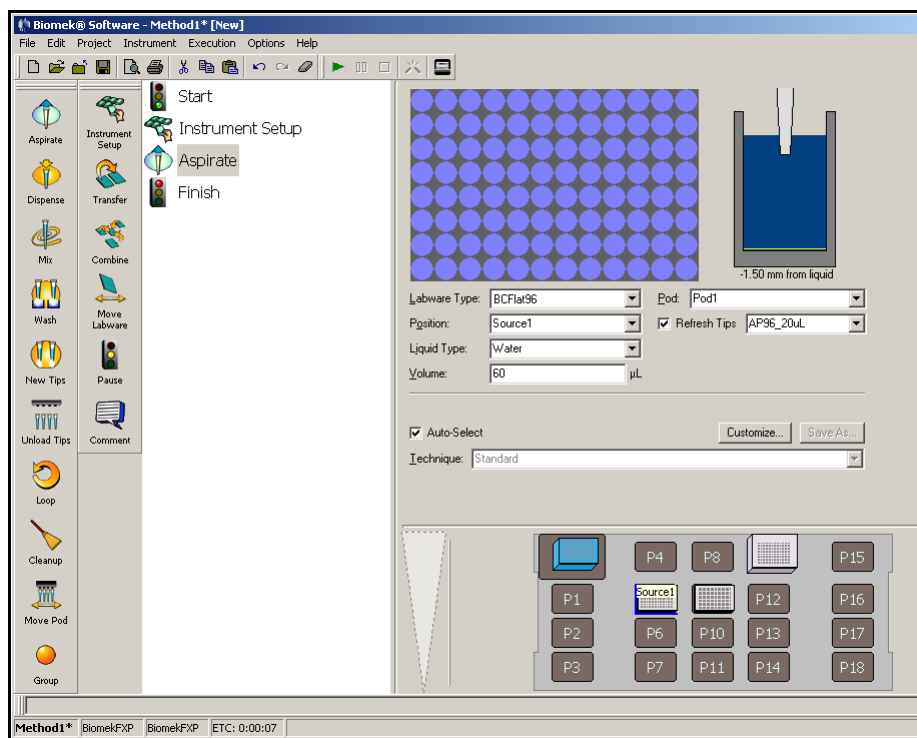

Figure 3-2. Aspirate step configured
5. Select **Refresh Tips** (Figure 3-2). This means that at the beginning of the step, before aspirating from the source plate, the pod will load new tips.